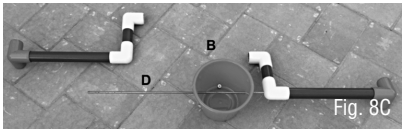

Fig. 8C
Slide Dump Bucket (B) onto Support Rod (D) as shown (Fig. 8C).